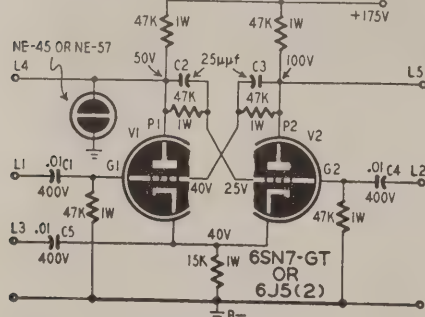

Fig. 2—A flip-flop circuit. V1 is conducting when the voltages are as shown.
One of the standard ways of storing a pulse of information electronically is the *flip-flop* circuit (see Fig. 2). It consists of two triodes (in one envelope, a 6SN7-GT, for example; or in two envelopes, two 6J5's for example), and it has two stable states: (1) triode V1 conducting and triode V2 not conducting; (2) triode V1 not conducting and triode V2 conducting.